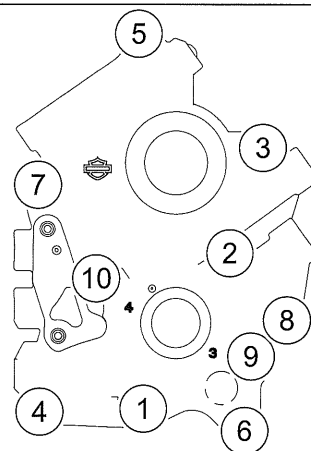

Figure 4-52. Cam Support Plate Tightening Sequence
- b. Install **new** O-ring (4) into the feed oil port of the crankcase.
3. See Figure 4-52. Tighten screws in sequence.